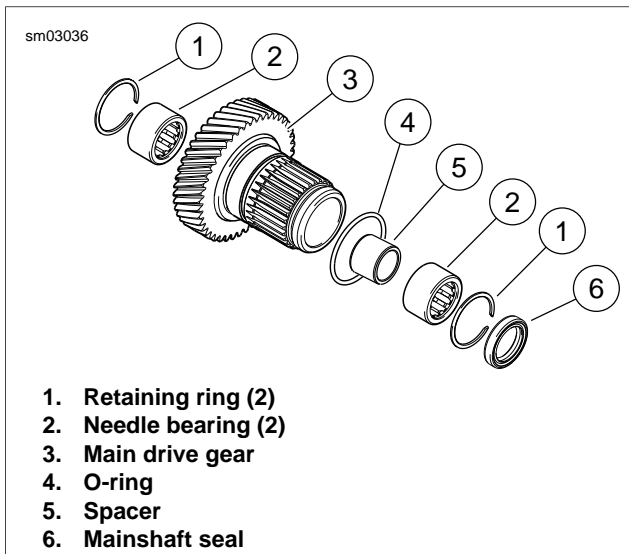

Figure 7-36. Main Drive Gear Assembly
1. See Figure 7-36. Remove mainshaft seal (6). Remove retaining rings (1), needle bearings (2) and spacer (5) from main drive gear (3). Discard retaining rings.
- c. See Figure 7-36. Turn over the main drive gear in the arbor press. With the tool at the 0.188 in. step, press in inner bearing.